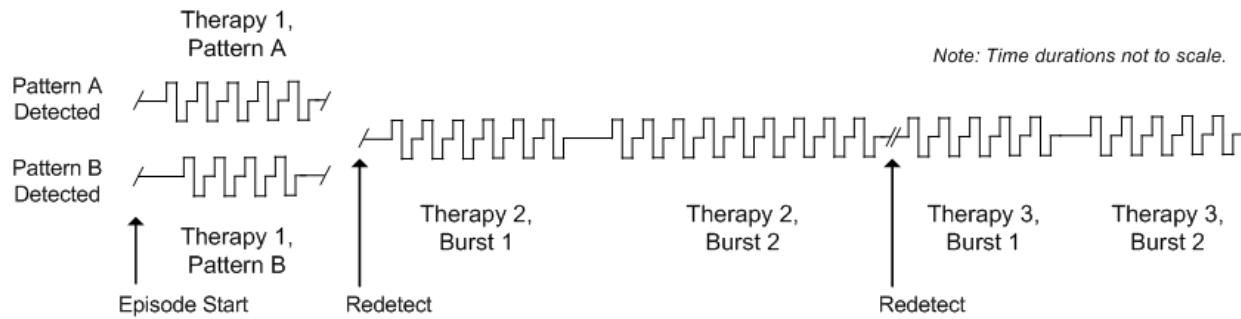

Figure 34: **A THERAPY SEQUENCE DELIVERED IN RESPONSE TO A SPECIFIC EVENT DETECTOR**
- Different bursts may be delivered in response to a specific event detector (Pattern A or Pattern B) as depicted in Figure 34; or